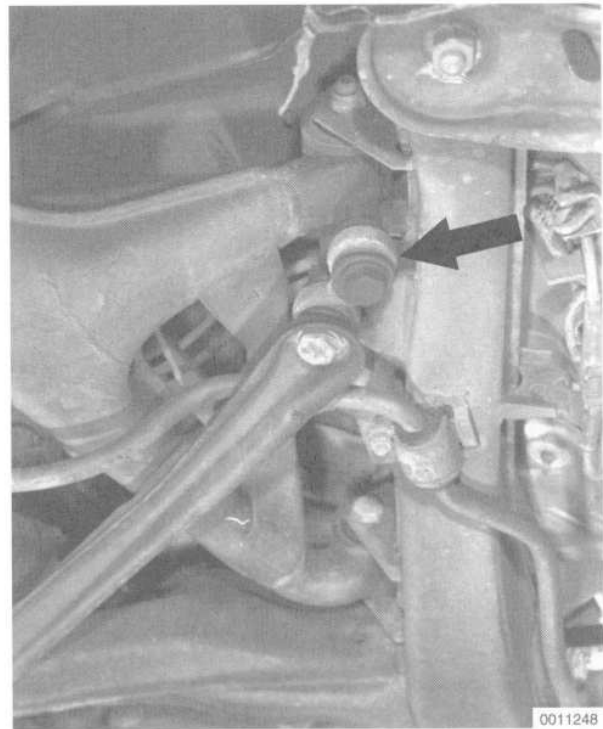

Fig. 14. Trailing arm connecting link (arrow).
8. Remove the connecting link mounting bolt from the trailing arm. See Fig. 14.